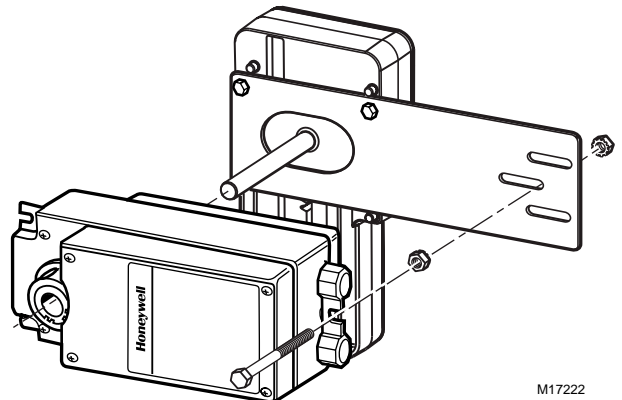

Fig. 3. Installing 25 or 53 lb-in. actuator.
6. Attach the anti-rotation hardware to the actuator mounting plate. See Fig. 3 through 6.